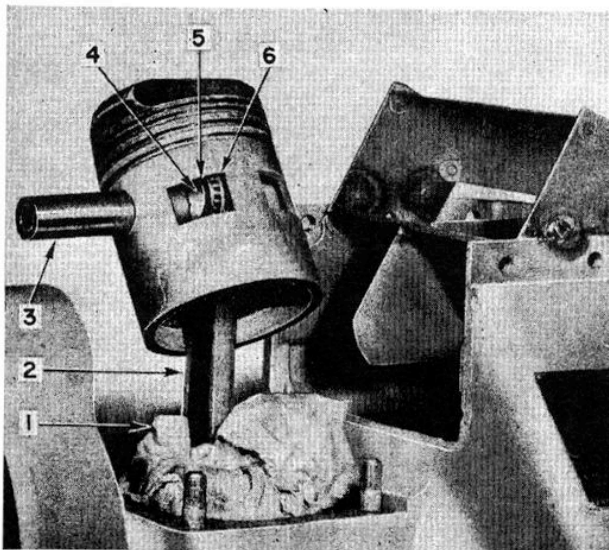

FIG. 20—INSTALLING PISTON PIN
- c. Install a snap ring in each piston boss using plier GP-13. (See figure 20.)
The piston assembly shown in figure 20, shows the gaps of the upper and lower rings in proper position entered on each staking pin. The center ring gap should be centered on the pin on the other side of the pistons.